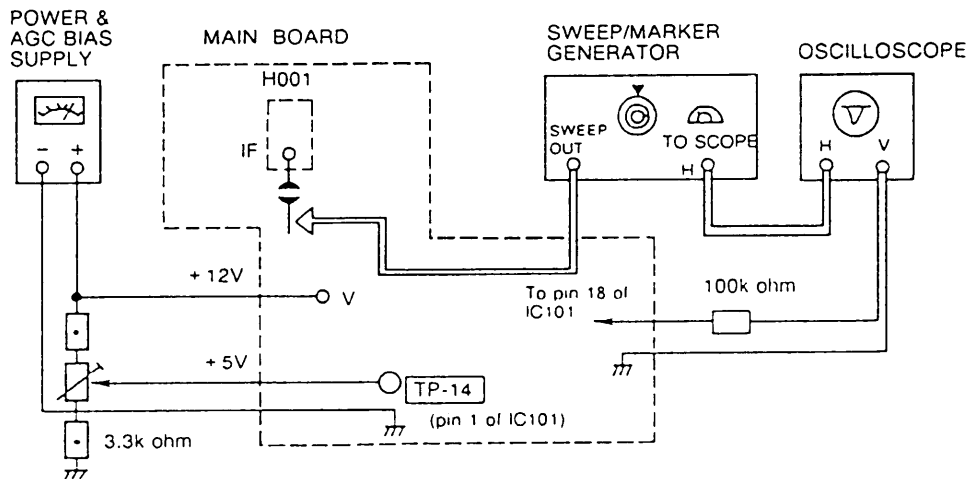

Figure 4. Picture IF Sweep Alignment
- GENERAL Refer to figure 4 for test equipment connection.
- PRELIMINARY STEPS 1. Disconnect the solder link (See figure 4.) on the foil side of the Main Board.
- SWEEP/MARKER GENERATOR Connect to IF circuit as shown in figure 4.